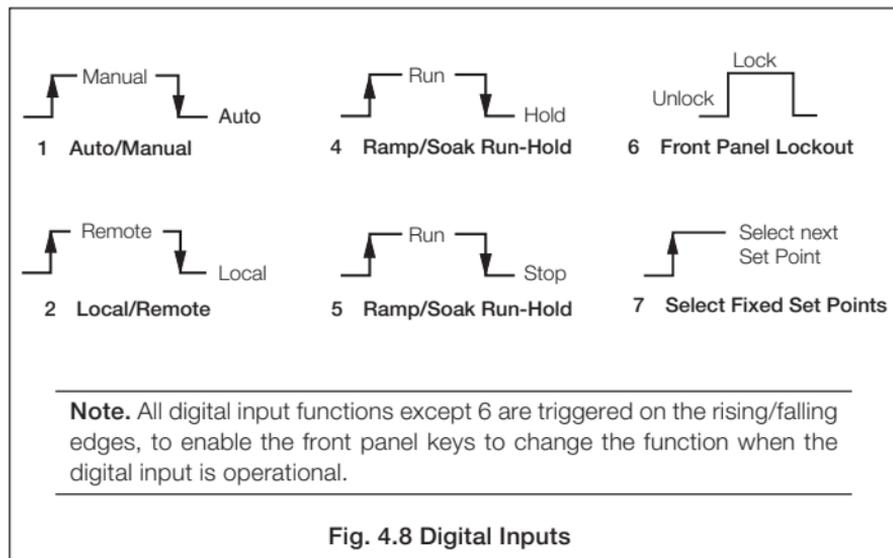

Fig. 4.8 Digital Inputs
4.3.4 Digital Input and Serial Communications – Fig. 4.8